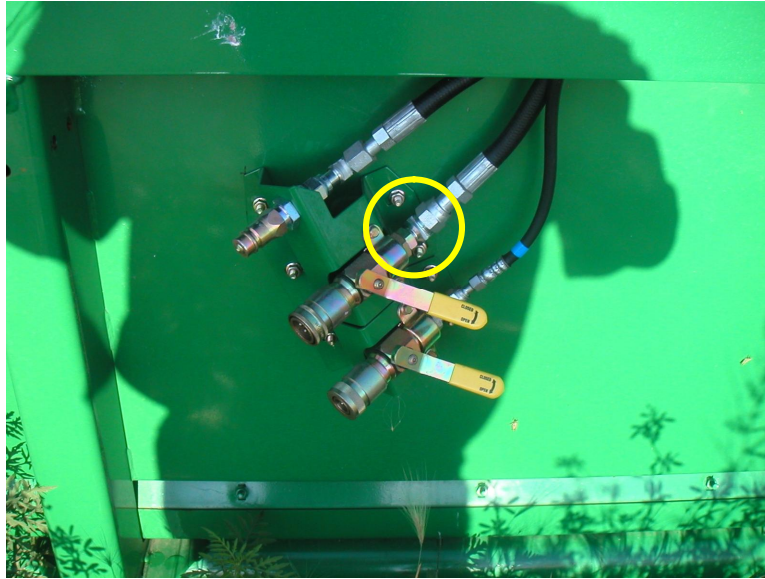

Figure 23
12. Connect the reel drive return hose to the coupler assembly and tighten hose and fitting at this time. (See **Figure 23**)